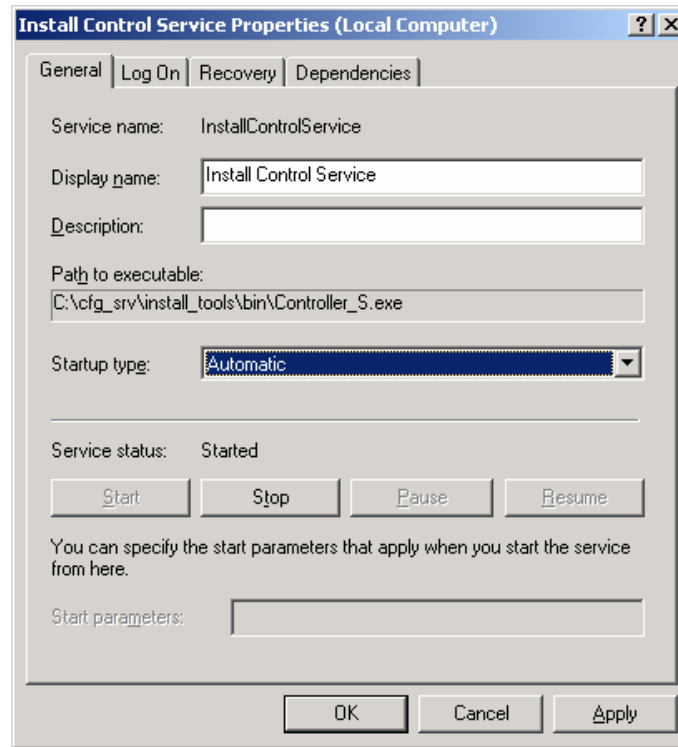

Figure 1-243. Install Control Service Change to Manual
- a. Double click on the **Install Control Service** icon shown in the Services window. The following screen is displayed (Figure 1-243).